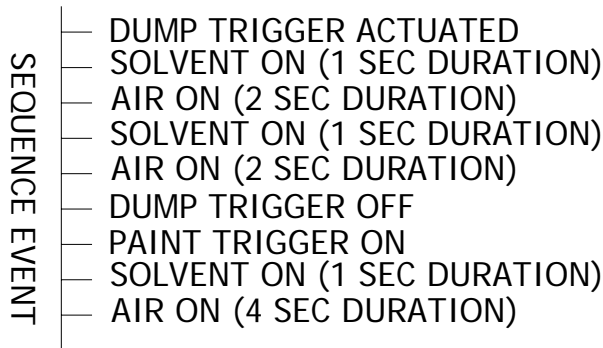

Figure 12: Typical Color Change Sequence
9. **Color Change Sequence** - Used when color is changed one to the other. Typical sequence is shown in Figure 12. **(Note: During this sequence, the applicator should be moved to a position to collect the waste material.)** The sequence shown is a starting point for processing, but the final sequence will depend on the material being sprayed and the solvent used to purge the applicator with.